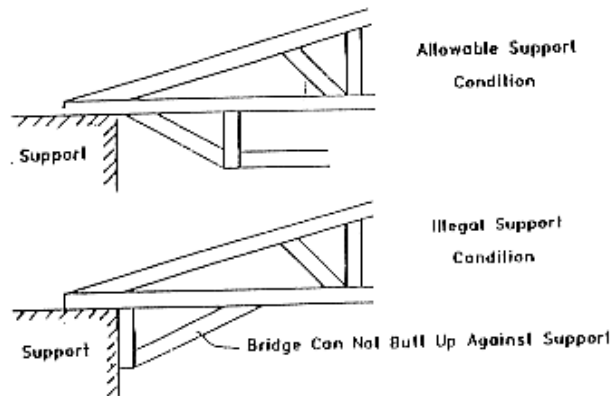

Figure 9
4. Bridges will not be allowed to butt up against the supports (Figure 9).